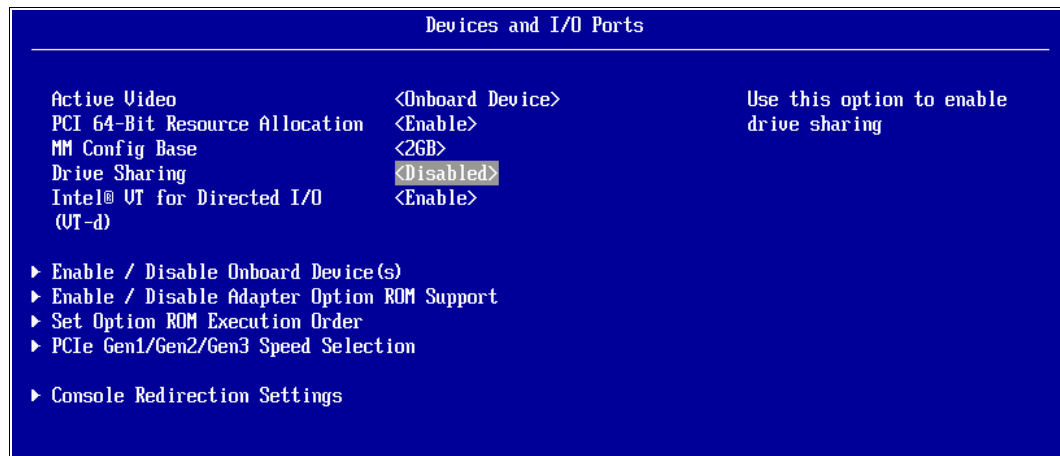

Figure 5-30 Drive Sharing enablement for vertical RAID
2. Access the menu in UEFI by selecting **System Settings** → **Devices and I/O Ports** as shown in Figure 5-30. Highlight **Disabled** next to Drive Sharing and press Enter to change Disabled to Enabled. Exit UEFI and allow the system to restart.